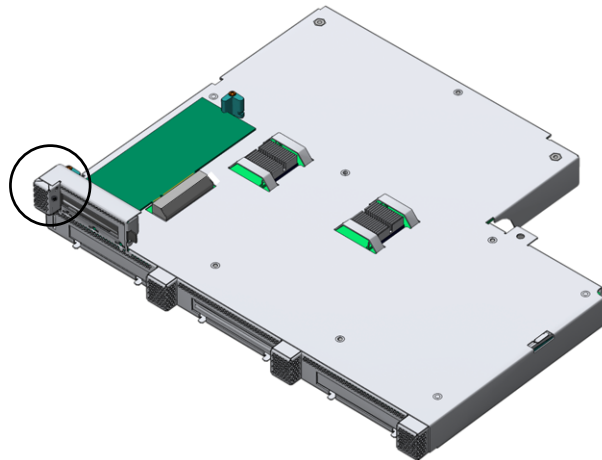

FIGURE 4-4 PCI Tray and PCI-E Card Securing Screw
2. Flip the PCI tray over and loosen the PCI-E card securing screw (FIGURE 4-4).